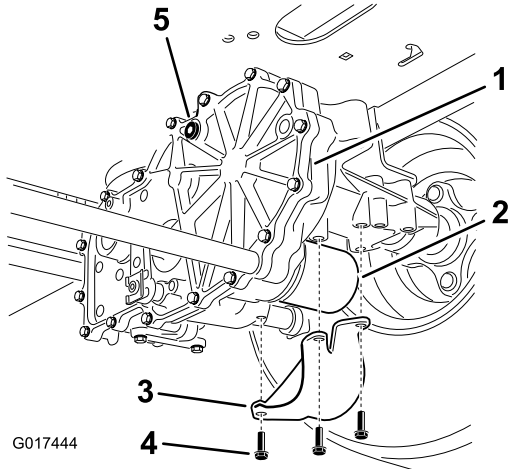

Figure 84
4. Locate the filter and guards on each transaxle-drive system (Figure 84).
5. Remove the 3 screws securing the filter guard and guard (Figure 84).